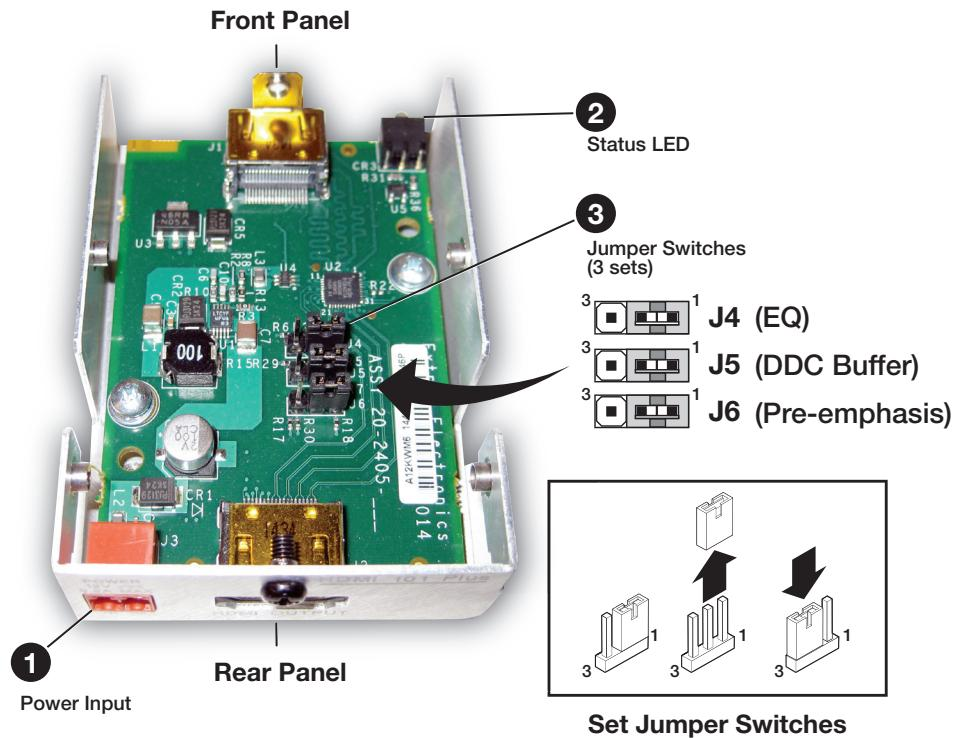

Figure 4. Locating the Jumper Switches
Under most conditions, the UHD4K 101 works without adjustments. However, the quality of the image displayed may be affected by a combination of the source, display, and cable length. If so, the UHD4K 101 has three sets of jumper switches that are used to adjust DDC buffer, Equalization (EQ), and Pre-emphasis (see figure 4 and table 1 on the following page.)